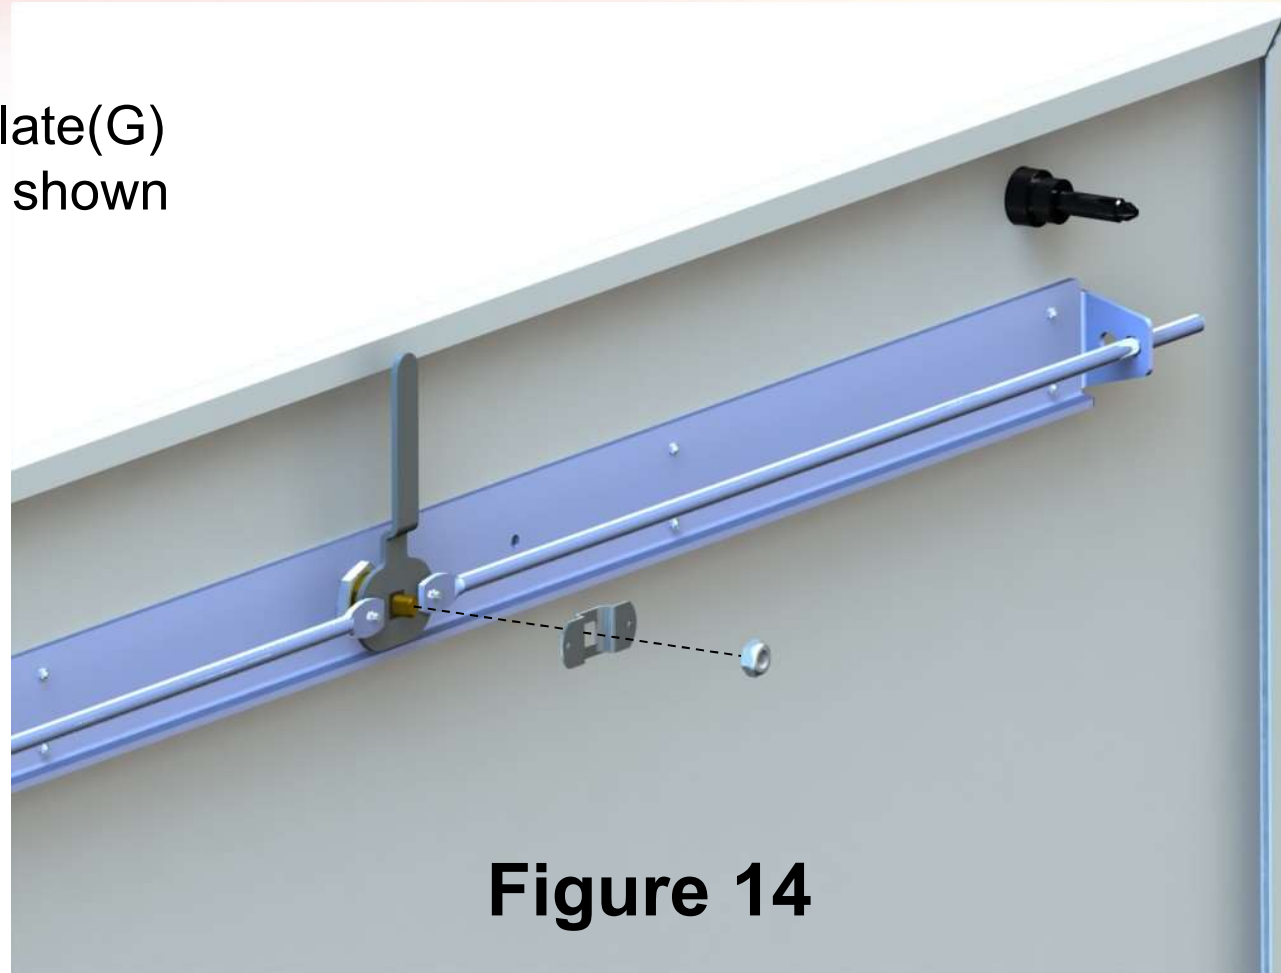

Figure 14
17. Assemble Rod Retainer Plate(G) and 9/32-28 Hex Nut(I) as shown in Fig 14.